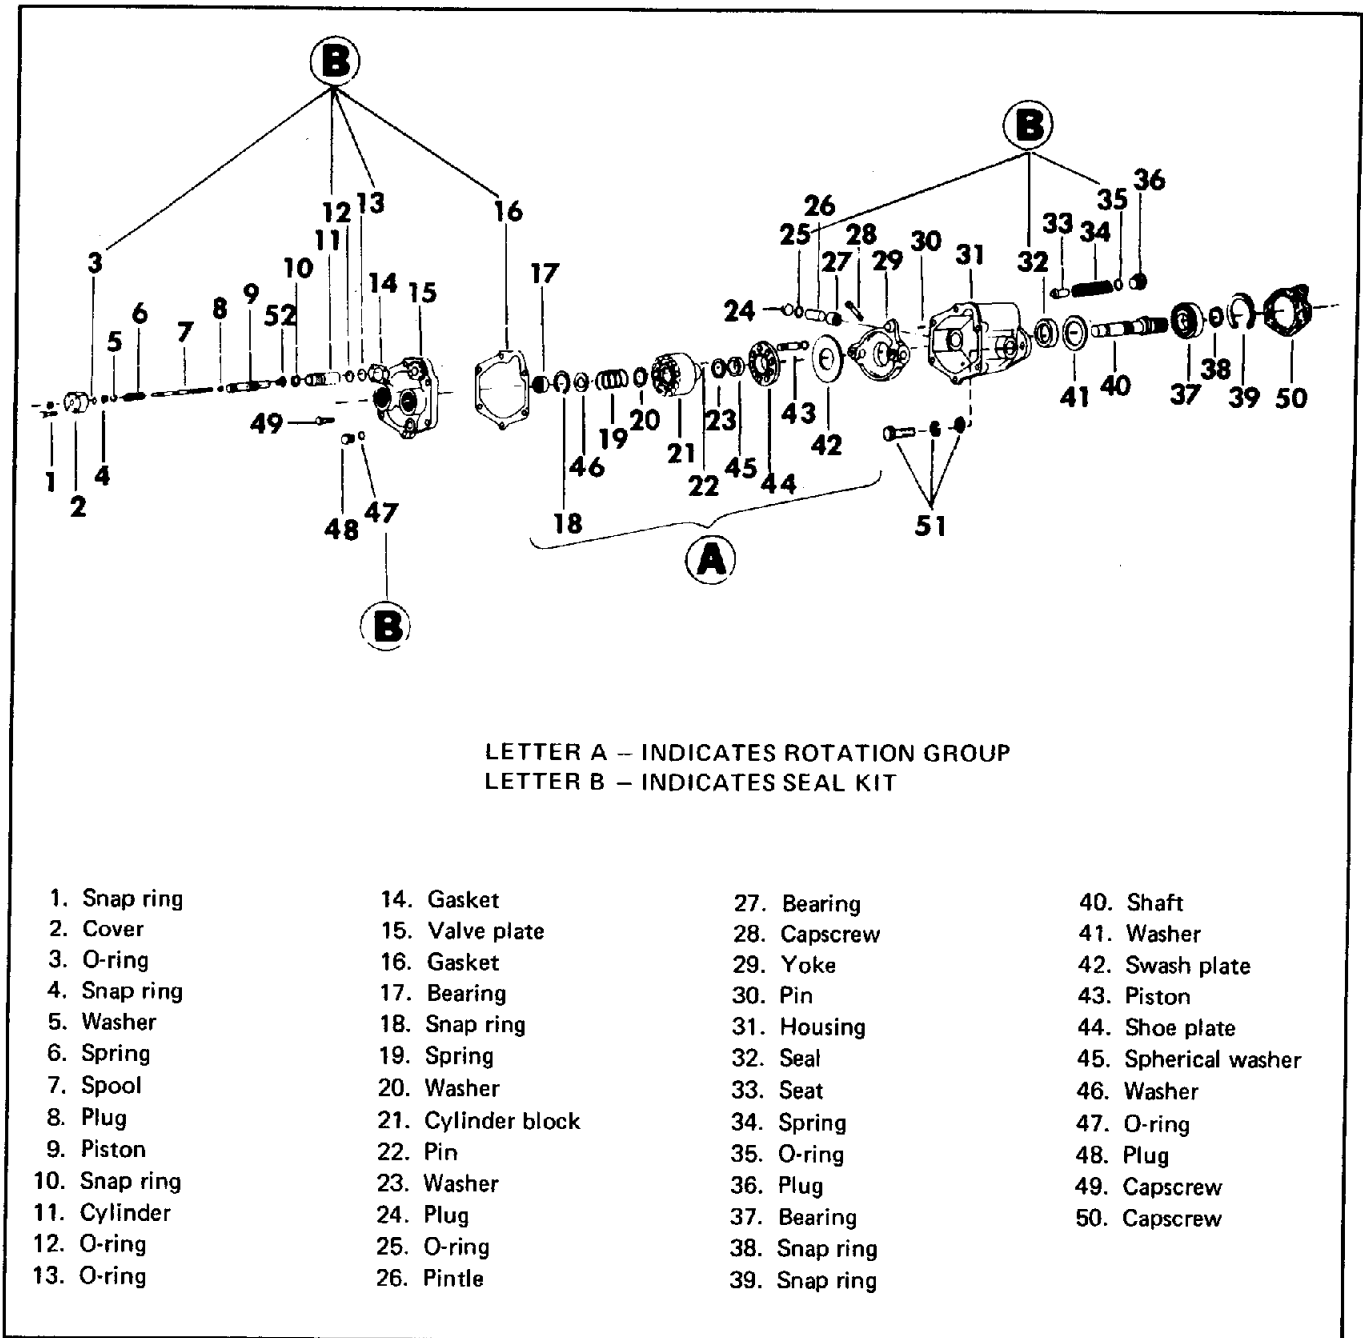
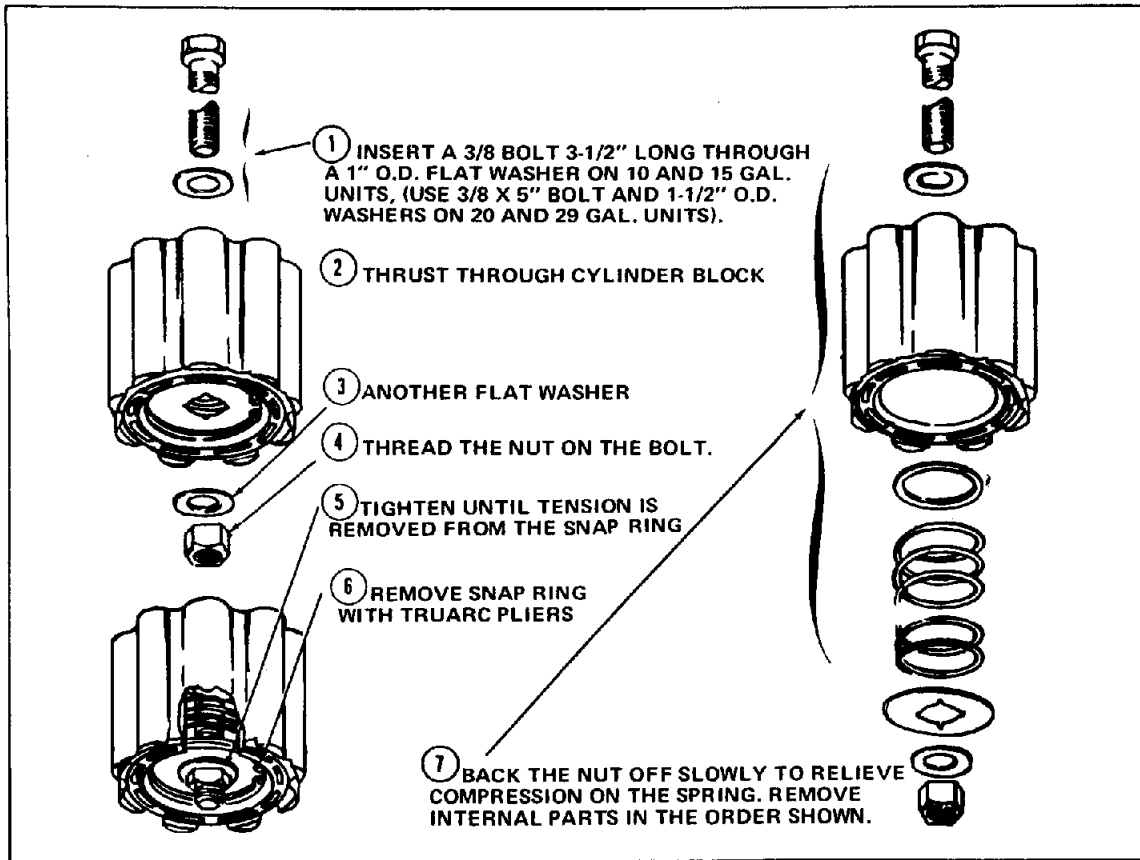
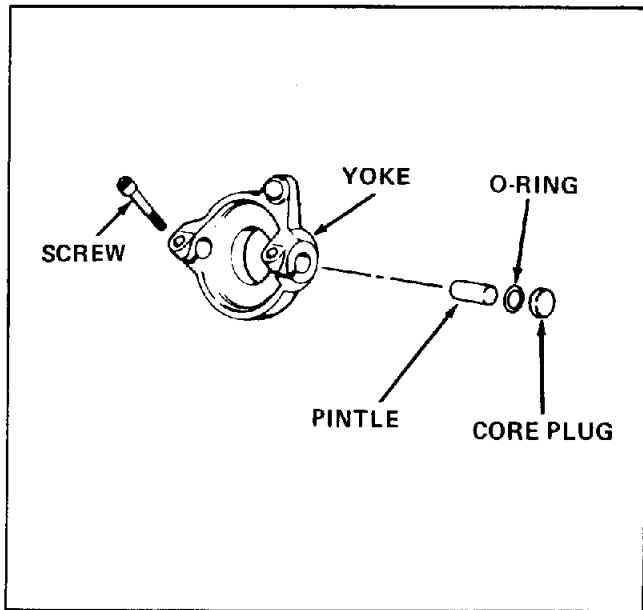

Figure 29. Main Hydraulic Pump (500AI TRAVELIFT)
Figure 30. Disassembly and Assembly of Cylinder Block
Figure 31. Pintle and Yoke
1. Valve plate removal. (Number callouts refer to Figure 29).
- a. Index mark valve plate (15) and pump housing (31).
- b. Remove valve plate by taking out capscrews (49). Stroking servo assembly (1 through 14) will come out with valve plate.
- c. Lift the shoe assembly (44, Figure 29), along with the piston and shoe assemblies (43) from the cylinder block (21). Exercise extreme care that machined surfaces of pistons are not nicked or damaged. Even a minor burr on a piston can severely score the cylinder block.
**WARNING:** If it is necessary to remove spring (19), and washers (20 and 46) from the cylinder block (21), refer to Figure 30 for proper procedures. Bodily injury can be caused by the sudden release of cylinder block spring (19, Figure 29).
3. Swash plate removal. Rotate the swash plate (42, Figure 29) and pull out evenly from yoke (29). Removal may be slightly difficult due to suction of oil under the plate.
- a. Remove retainer snap ring (39, Figure 29) with Truarc pliers.
- b. Tap the end of drive shaft (40) with soft tip hammer to free the shaft and bearing (37) from the housing (31).
- b. Remove plug (36), from housing along with O-ring (35), spring (34), and seat (33). Exercise care when removing plug since spring (34) is compressed slightly.
6. Pintle and yoke removal (Figure 31).
- a. Back-off lock screw (28, Figure 29) at yoke until pintle groove clears.
- d. Assemble seat (33, Figure 29), spring (34), and plug (36), and insert the assembly through hole in drive-end of pump housing.
- a. If bearing (37) requires replacement, press new bearing on shaft over drive-coupling end. Support bearing inner race while pressing into position. Install retaining ring (38).
- b. Install new shaft seal (32, Figure 29) in housing. Place washer (41) over shaft seal and then install drive shaft (40) in the housing.
- c. Secure assembly in housing with snap ring (39).
3. Install Swash Plate. Lubricate and install swash plate (42) with round outside edge down. Plate should rotate freely with fingers.
4. Reassembly and Installation of Rotating Group. If the spring and washers were removed from the cylinder block, re-install them as shown in Figure 30. Assemble the piston and shoe assemblies in the cylinder block as follows:
- b. Insert three pins (22, Figure 29) in their holes in the cylinder block.
- c. Grease back-up washer (23) and spherical washers (45) and place them on the pins.
- a. If needle bearing (17, Figure 29) requires replacement, install new bearing in bore of valve plate (15).
- d. Push the nine piston-and-shoe assemblies (43) through holes in shoe plate (44) until shoes seat in shoe plate.